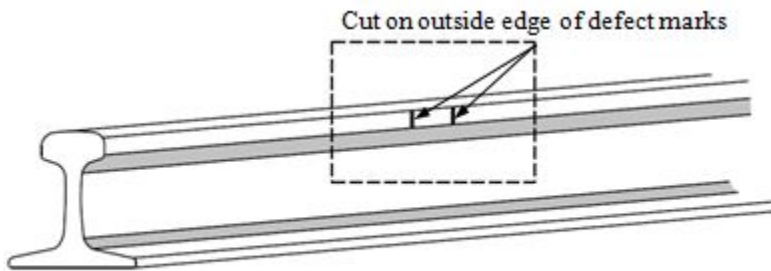

Figure 111G *Defect Marking*
- If rail is not cut and marks are visible, cut on outside of marks. (See Figure 111G)